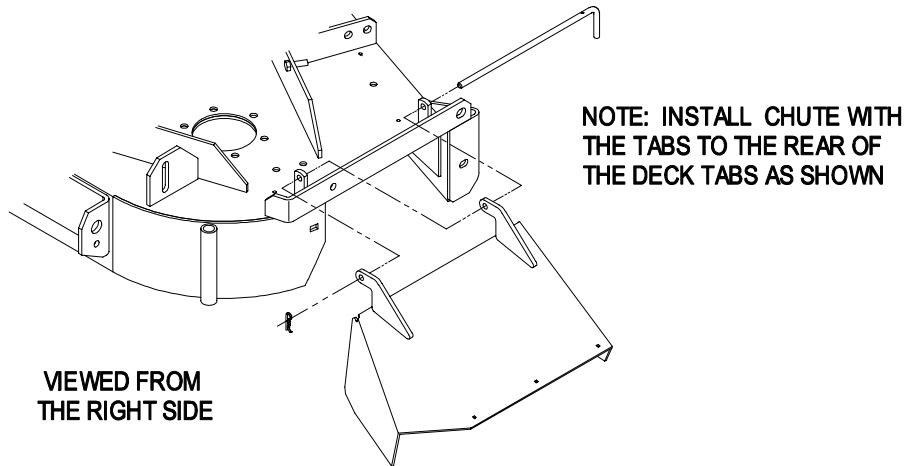

FIGURE 3
- Install the new discharge chute (Item 20) using the chute pivot pin (Item 18) and hairpin (Item 19) provided as shown in Figure 3.